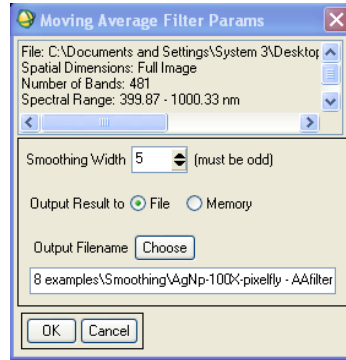

Figure 2. Moving Average Filter Params box
3. Select the image in the Select input file dialog, or click Open, New. click OK. The Moving Average Filter Params box will open (Figure 2). Keep all image bands, to avoid the mistake of creating files of differing numbers of bands.